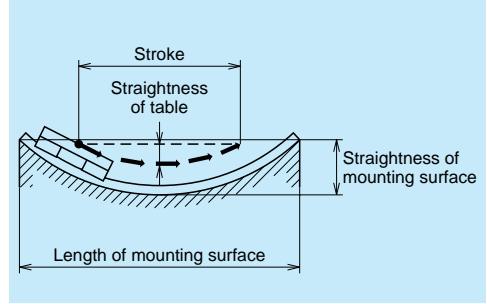

Fig. II-9-4
- However, when two or more ball slides are assembled to each rail, the table stroke becomes shorter than the mounting surface. This, along with the fact that the mounting error is evenly spread, contributes to a higher table accuracy than the mounting face accuracy, reducing the error to about 1/3 in average (Fig. II-9-4).